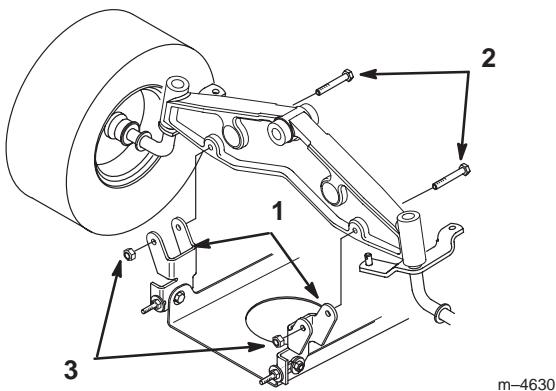

Figure 43
- Install the mower pivot mount brackets to the front axle with bolts and locknuts (Fig. 43).